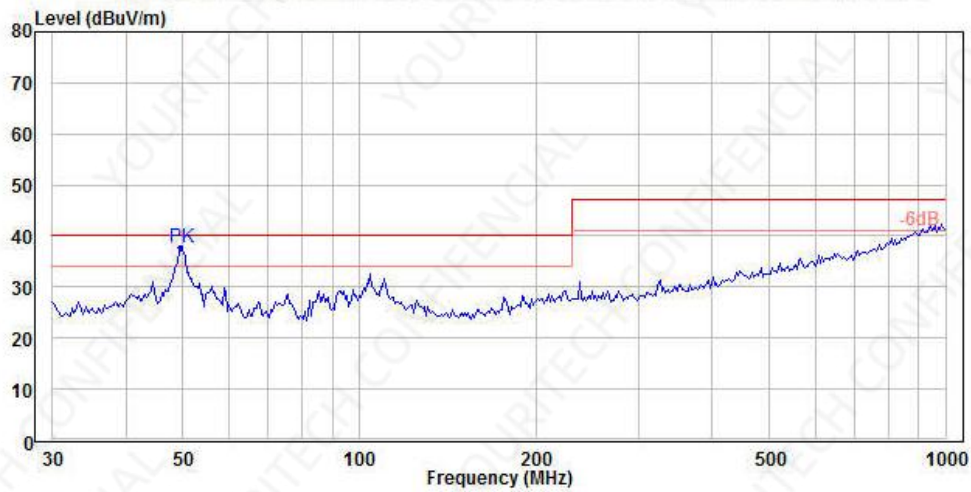

Figure 7-7: Radiation test vertical
2. Radiation test vertical test data, shown in Figure 7-7.